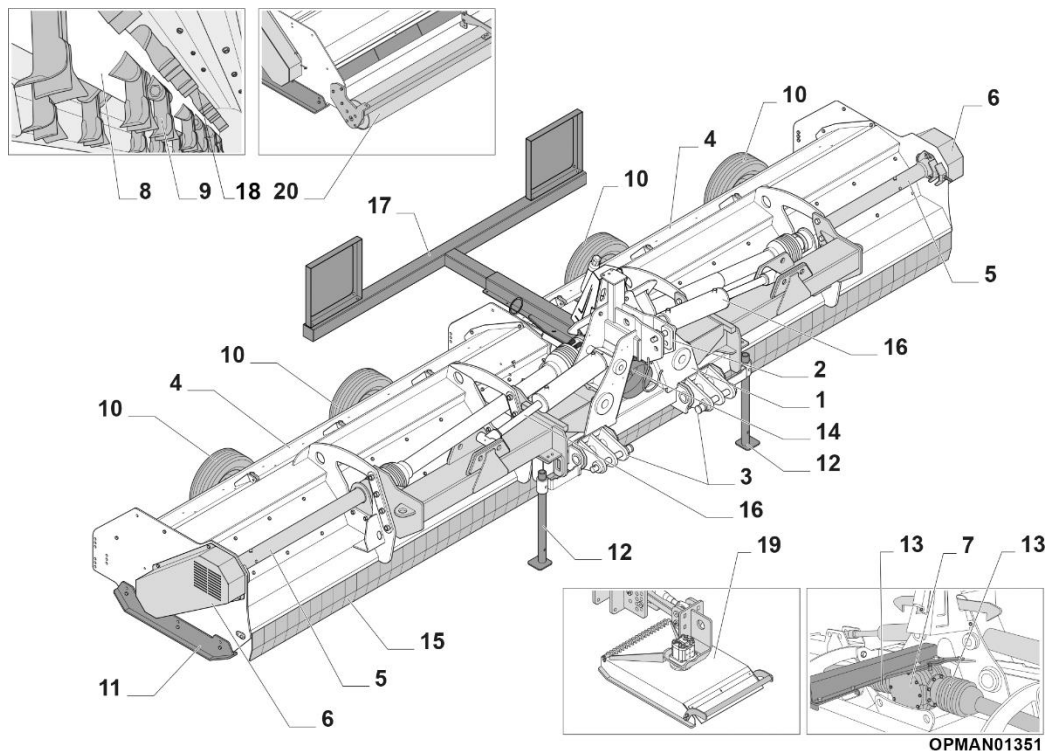

Figure 1
With reference to Figure 1, the Mower is a machine designed and built exclusively for maintenance of green areas or mulching of non-woody stalk vegetation; it mulches backwards stalks of corn, straw, beet and soyabean leaves, brushwood and grass. It must not be used for other purposes or with other materials.
The Mower (Figure 1) is made up of a metal mainframe equipped with reinforced brackets that creates the strength and structure of the machine. The mainframe is fitted with two cowls fitted with cutting rotor shafts (8). The headstock assembly (1) is made that only allows the machine to be operated rear mount only, with two three-point lower link connections (3) and one three-point upper connection (2). The material intake of the machine is protected by a series of sheet metal plates (15) designed to prevent soil and/or fragments of plants from being projected outwards. The Mower is powered by the supporting agricultural tractor engine by connecting the gearbox (7) to the PTO of the tractor with the supplied PTO driveshaft. The gearbox allows for the correct speed of the rotor shafts (8) to the cutting rotor shafts with transfer of drive provided via a pulley and belt drive transmission system (6).